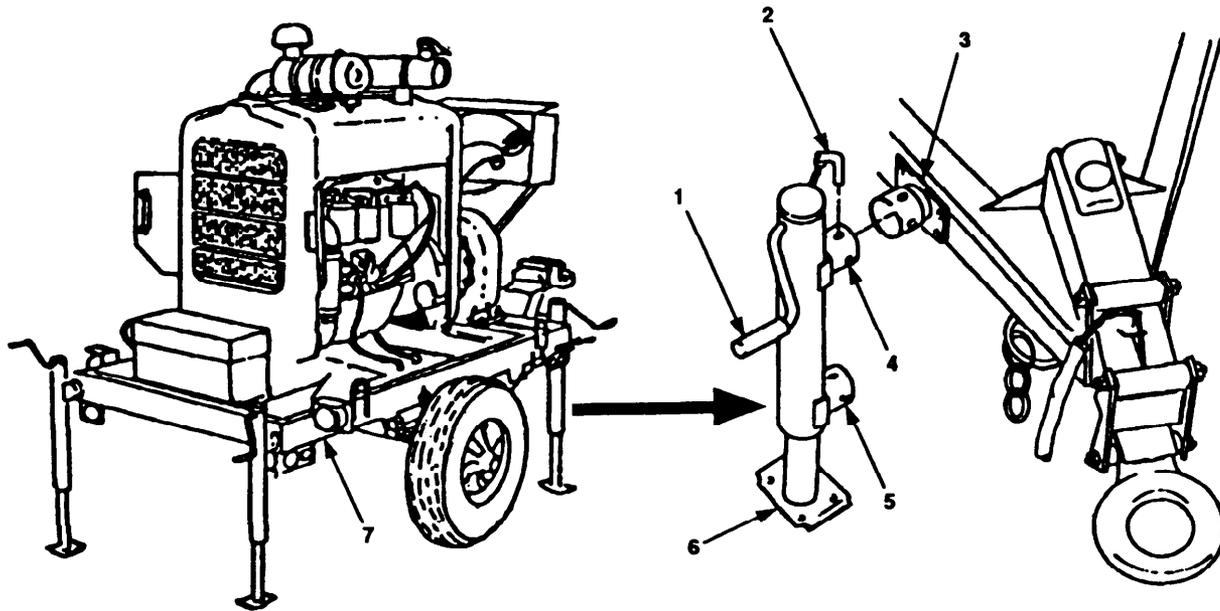

Figure 2-14. Double-posted Front Jack.
- c. If equipped with a double-posted front jack, refer to Figure 2-14 and perform the following: